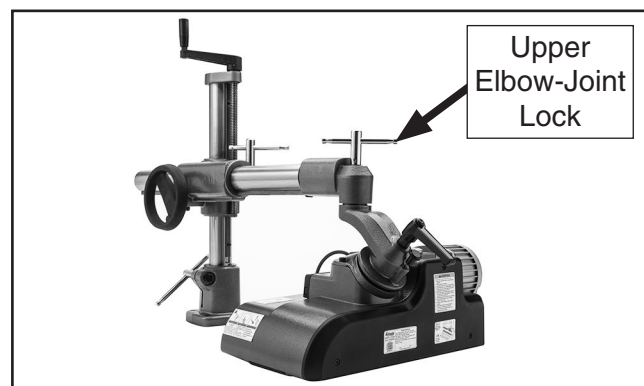

Figure 14. Upper elbow-joint lock fully tightened.
8. Position upper elbow-joint so internal threads contact those inside lower elbow-joint, then fully tighten upper elbow-joint lock (see **Figure 14**).